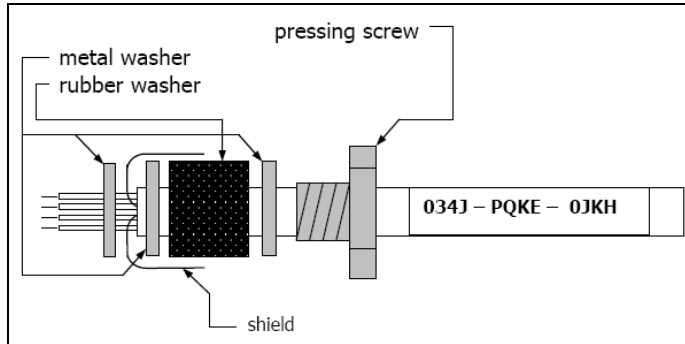

Figure 13: Cable assembling
2. Extract about 4 mm of the wire isolation and tin the wire ends. Place the pressing screw, the rubber washer and the metal washers of the cable gland one after the other onto the prepared cable end (see **Figure 13**).